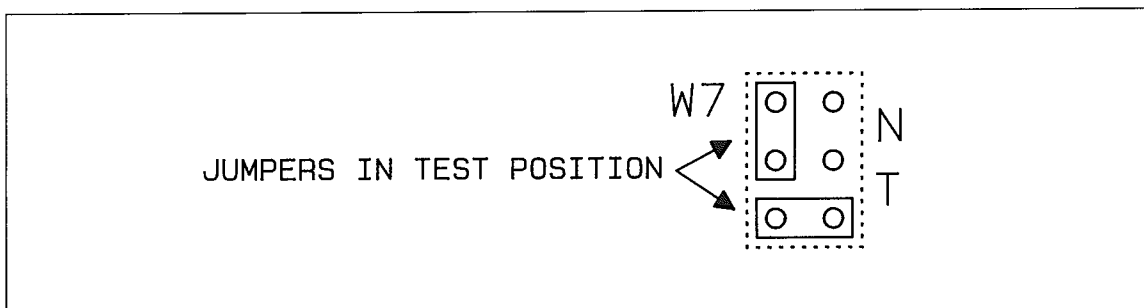

Figure 5-A5 Digital Filter W7 Position Revision A
3. The test position for W7 is different on revision A. To put W7 in the normal (N) position, take the jumpers off. To put W7 in the test (T) position, set the jumpers as shown in figure 5-A5.